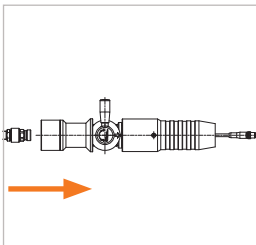

Figure 13
- ▶ Push the WEH® Service receptacle into the fueling nozzle until it stops and hold the nozzle in this position (OFF position) (Figure 13).